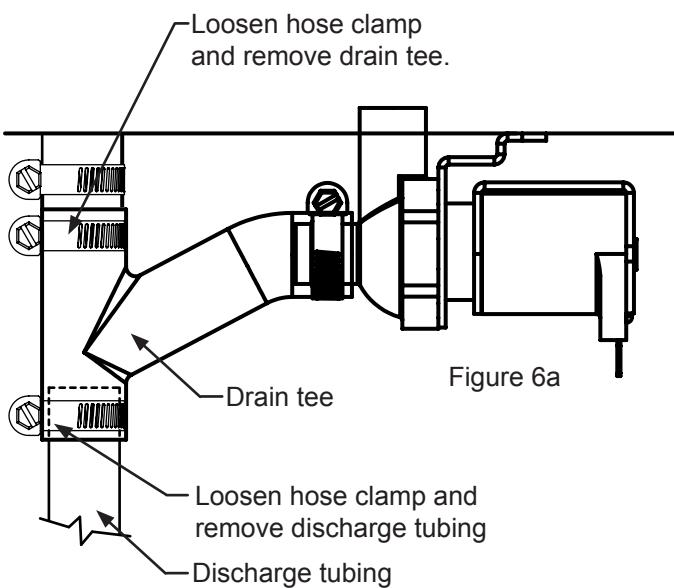

Figure 6a
7) Loosen the hose clamp at the bottom of the drain tee and remove the discharge tubing from the drain tee. (See Figure 6a).
8) Loosen the hose clamp from the top of the drain tee and remove the drain tee from the connector. (See Figure 6a).